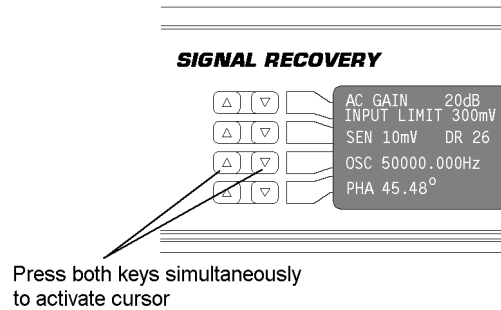

Figure 4-5, Active Cursor Activation
Step 1 Press both the Δ and ∇ keys simultaneously. In the example shown in figure 4-5 the internal oscillator frequency will be adjusted, since this is the control displayed adjacent to the keys. A cursor appears under one of the displayed digits (see also figure 4-6).